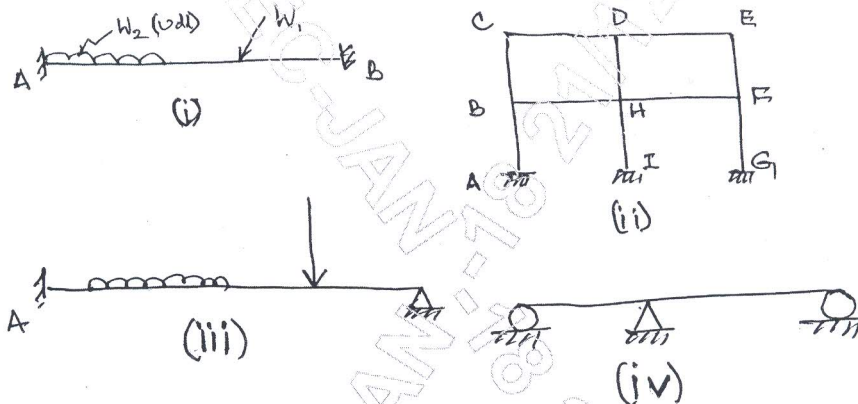

Fig.Q1(c)
- c. Determine the degree of static indeterminacy for the following structures [Fig.Q1(c)]: